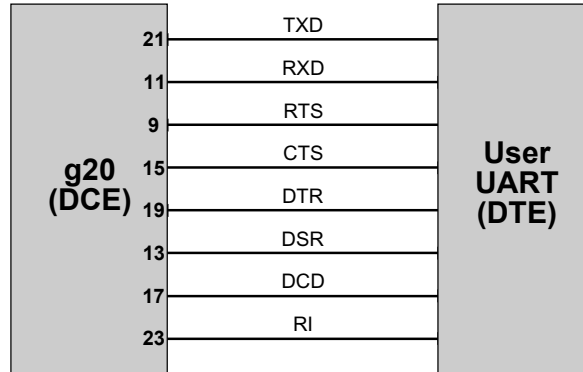

Figure 11. g20 RS232 Interface
- The g20 is a DCE device. Applicable line terminology is shown in Figure 11.